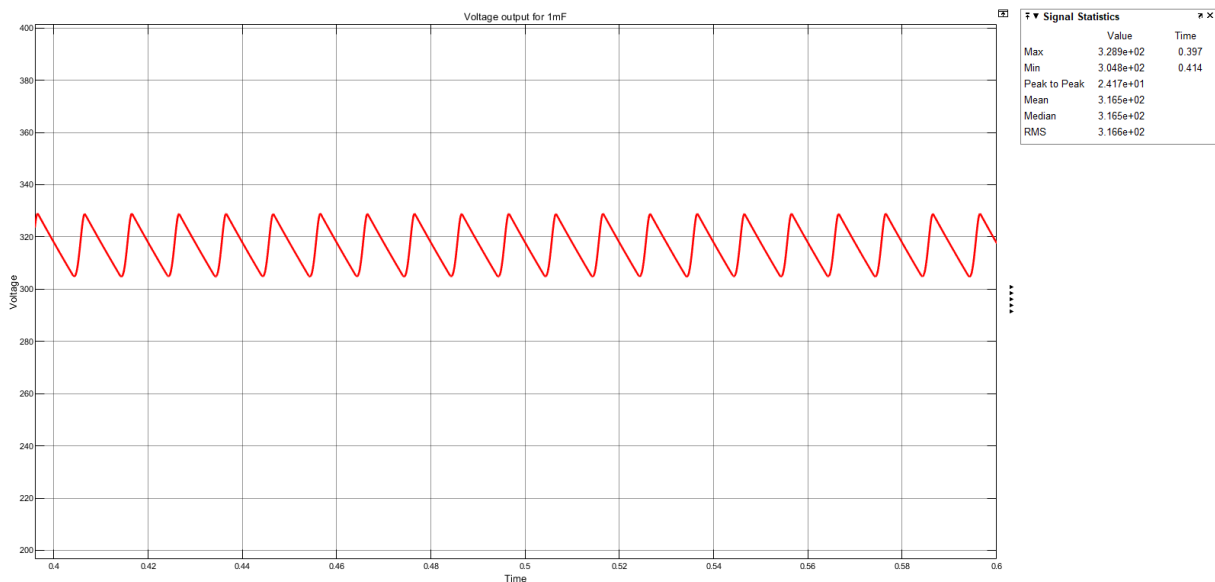

Figure 8: Voltage output for 1mF
- B) In the simulation we tried a big capacitance for decreasing output voltage peak-to-peak ripple. Firstly, we tried 1mF I take output which is shown in “Figure 8”.